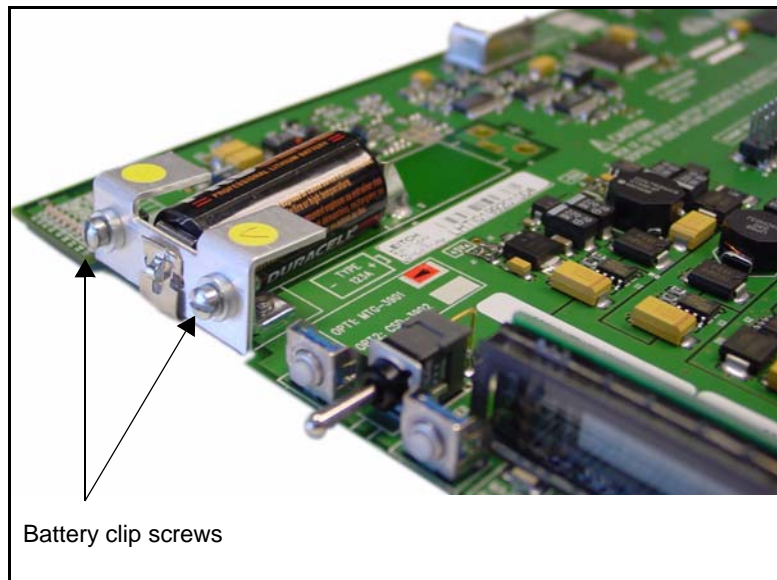

Figure B-1. Battery Replacement
1. Remove the two screws from the battery clip located at the board front edge (see Figure B-1). The clip will fall off when the screws have reached the ends of their threads.